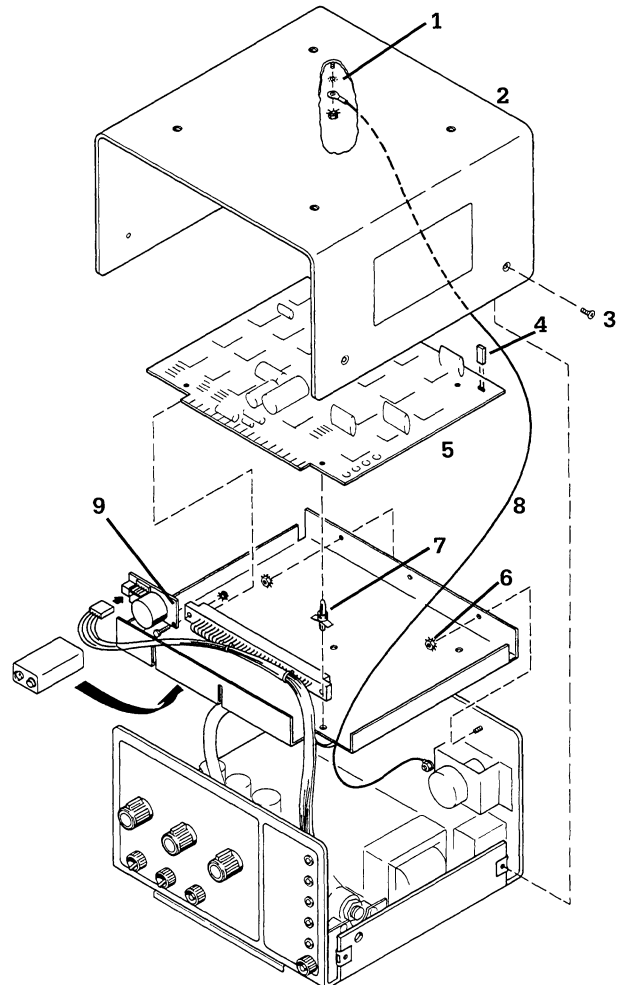

Figure 6-1
- 2. Remove four screws fastening the cover panel onto the chassis then set the panel aside, (Figure 6-1).